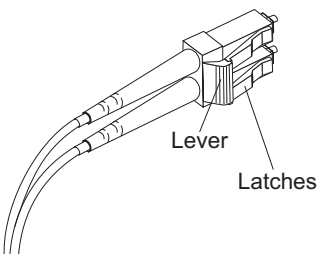

Figure 33. LC-LC Fibre Channel cable lever and latches
1. On the end of the LC-LC cable that connects into the SFP module or host bus adapter, press and hold the lever to release the latches, as shown in Figure 33 on page 53.